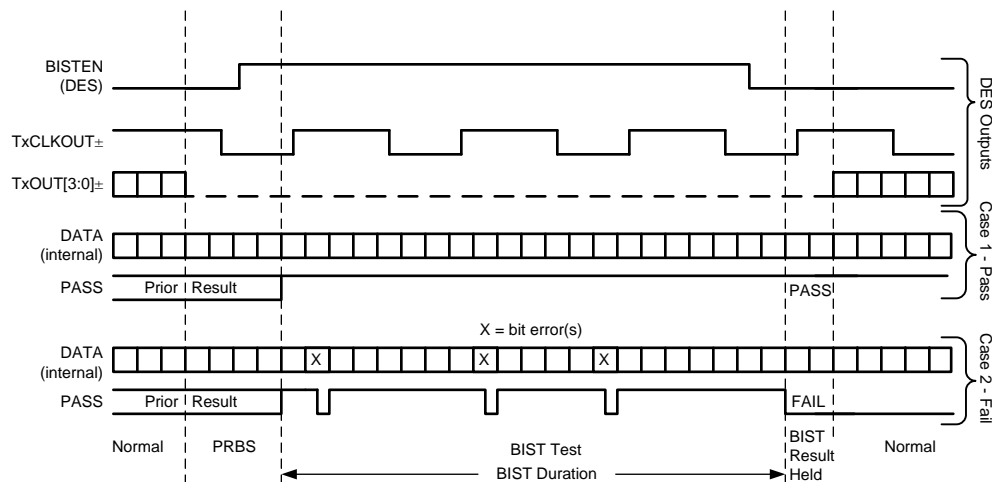

Figure 19. BIST Waveforms, in Conjunction With Deserializer Signals
Step 4: The link returns to normal operation after the deserializer BISTEN pin is low. Figure 19 shows the waveform diagram of a typical BIST test for two cases. Case 1 is error-free, and Case 2 shows one with multiple errors. In most cases, it is difficult to generate errors due to the robustness of the link (differential data transmission and so forth), thus they may be introduced by greatly extending the cable length, faulting the interconnect medium, or reducing signal condition enhancements (Rx Equalization).